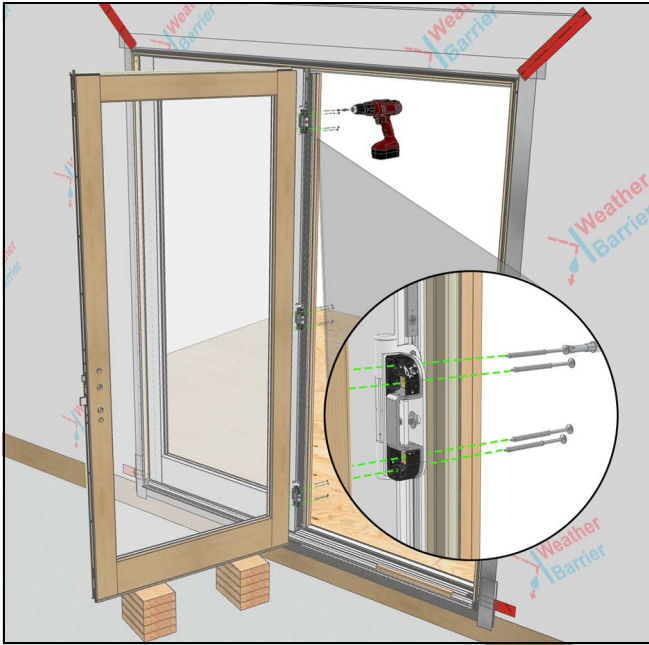

Figure 17
5. Fasten 4 x 2-1/2" matching screws are used to attach each hinge of the panel. Hinges are pre-applied to stationary panel on the swinging jamb. See Figure 17